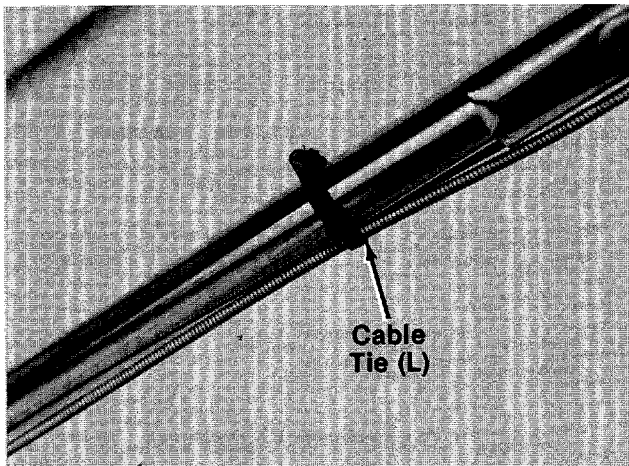

FIGURE 10.
15. Secure cables to upper and lower handles with cable ties (L). See figure 10.